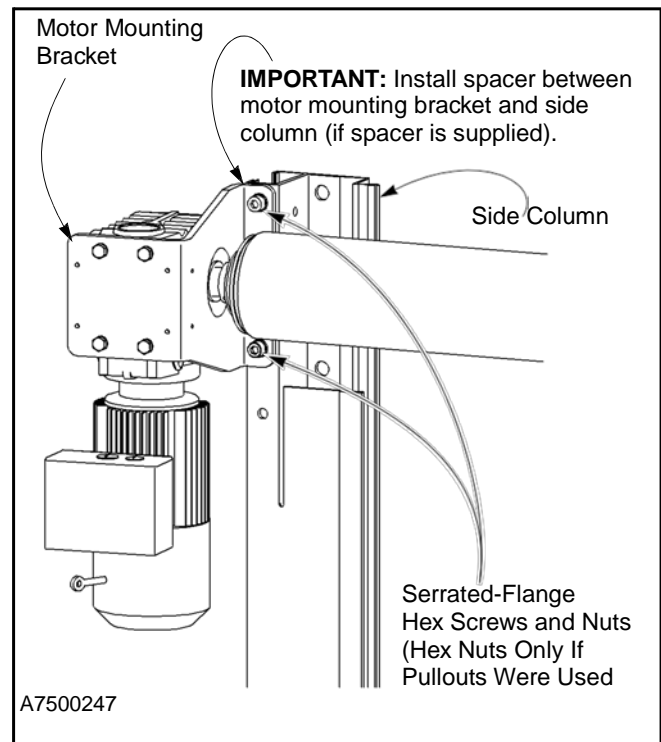
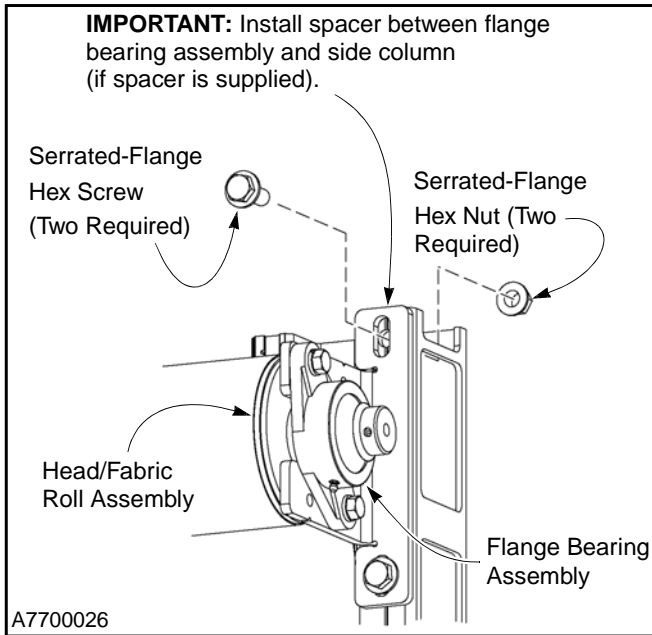

Figure 18
Figure 19
IMPORTANT: If your door is oversized, two large spacers were included in the small parts carton. Failure to install a spacer between the motor mounting bracket and flange bearing assembly could result in damage to the door. (See Figure 18 and Figure 19.)
5. Attach the motor mounting bracket to the side column using two 1¹/₂-13 x 1¹/₄-in. serrated-flange hex screws and nuts (or two 1¹/₂-13 x 2-in. screws and nuts). Doors with 3 or more windribs will have spacers for the drive and non-drive side to shim the drum roll assembly away from the rear spreader. Failure to install these spacers (if supplied) will cause the drum roll to jamb against the rear spreader due to the diameter of the drum roll. Doors with 2 windribs or less will not have the shim material. DO NOT tighten the hex nuts at this time. (See Figure 18.)
4. Position the head assembly in front of the pair of holes near the top of each side column. Align the holes in the motor mounting bracket with the holes in the side column. (See Figure 18.)
6. Slide the flange bearing assembly over the drum shaft at the non-drive end of the head/fabric roll assembly. (See Figure 19.)
IMPORTANT: If your door requires spacers, be sure to install a spacer between the flange bearing assembly and the side column. (See Figure 19.)